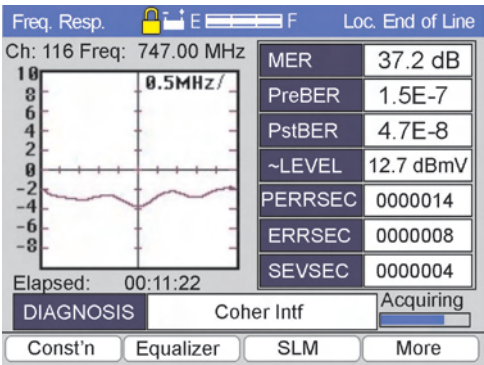

Figure 4-31
**Freq Resp** - If Frequency Response (F2) is selected from the Downstream (MORE) menu, the constellation display is replaced by an “in channel” frequency response display. This display provides a frequency spectrum of  $\pm 2.5$  MHz (total of 5 MHz) with a vertical range of + and - 10 dB. The Frequency Spectrum screen is shown in Figure 4-31.